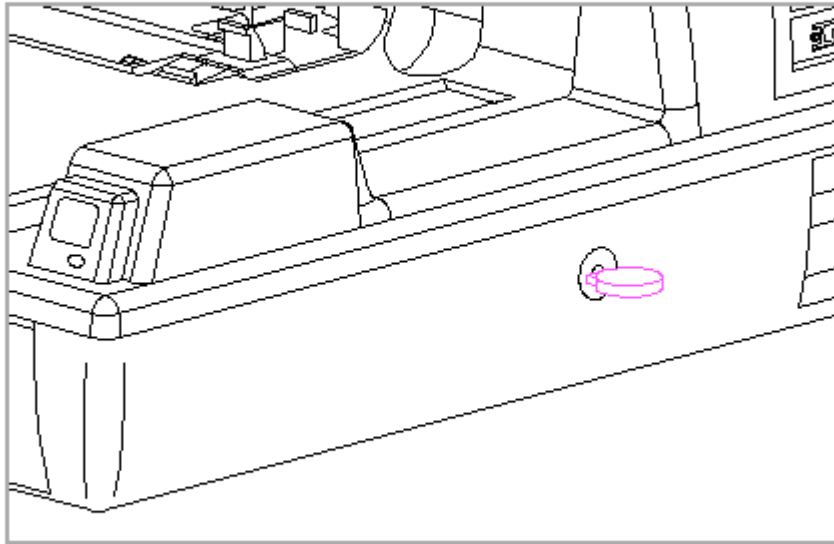

Figure D-3. Compaq SmartStation Keylock in Unlocked Position
7. Unlock the expansion base keylock (Figure D-3).